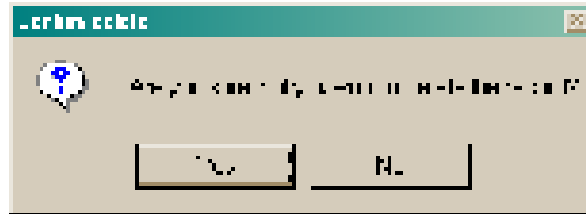

Figure 5.18 Delete confirmation message.
2. Click Delete. A confirmation message (Figure 5-18) is displayed, asking you to confirm the deletion.